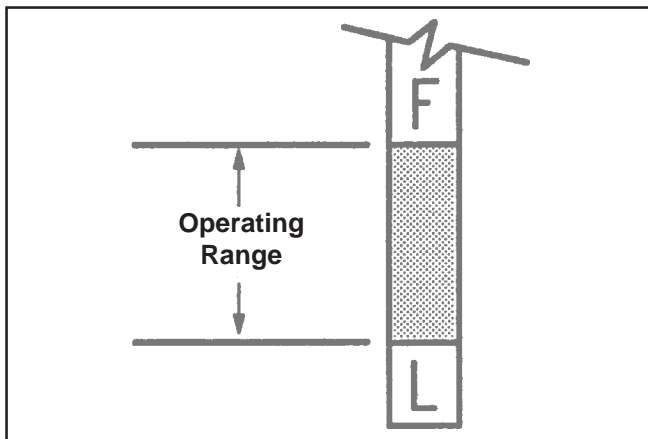

Figure 10. Oil Level Marks on Dipstick.
4. Remove the oil fill cap/dipstick and check oil level. The level should be between the "F" and "L" marks. See Figure 10. If low, add oil of the proper type up to the "F" mark. Reinstall the oil fill cap/dipstick and thread tight. (Refer to **Oil Type** on page 4.) Always check the level with the dipstick before adding more oil.